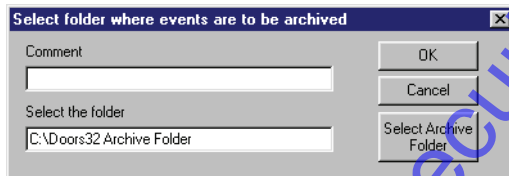

Figure 5-18: Selected Folder for Archive File Window
- Click on the  button. The Selected Folder for Archive File window will appear (see Figure 5-18).